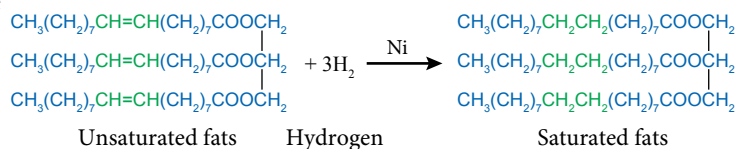

Figure 5.3 Hydrogenation reaction of unsaturated fat to saturated fat
- During a hydrogenation reaction, hydrogen gas, H_2 is passed into hot oil with the presence of nickel, Ni as the catalyst. The double bond in the carbon chain is “opened” and the hydrogen atoms, H are added to the carbon chain. Figure 5.3 shows the example of a hydrogenation reaction.